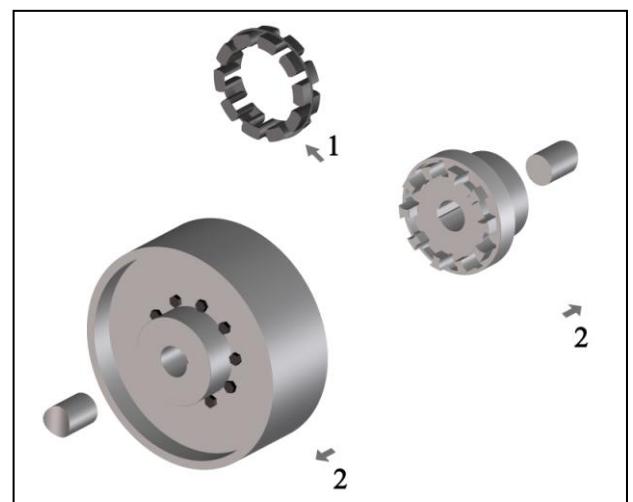

Fig. 10
- Pull back a shaft with mounted coupling hub (Figure 10, Pos. 2).
- Remove the intermediate ring (Figure 10, Pos. 1).